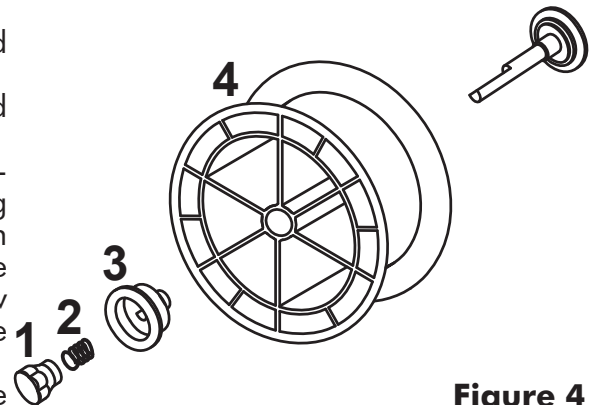

Figure 4
- Loosen the nut (1) of the spool holder (brakedrum) and remove the spring (2) and the external ring (3). (Fig.4)
- Remove the plastic protection from the spool (4) and place the wire spool on the spool holder.
- Mount the external ring (3), the spring (2) and the plastic lock nut (1) again. These parts form the braking system of the wire spool speed. NOTE: Do not tighten the nut too much, excessive pressure strains the wire feeding motor, while too little pressure does not allow the immediate stop of the wire spool at the end of the welding.